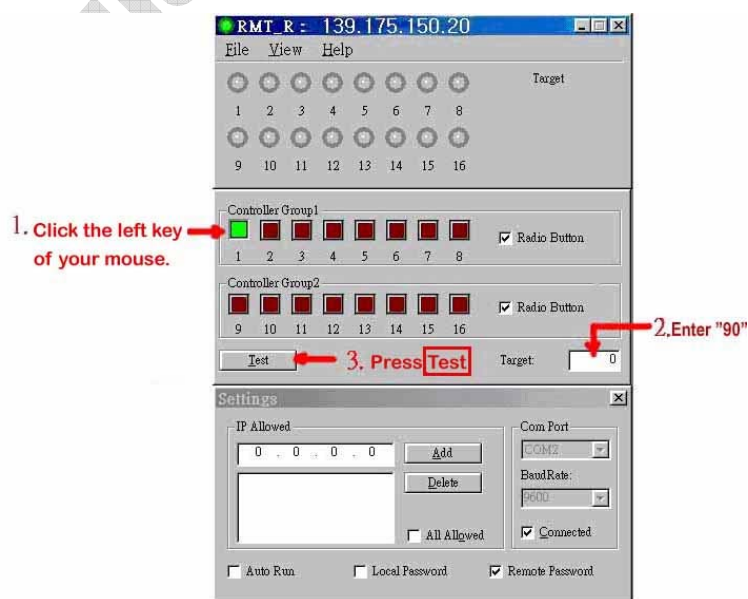

Fig. 4
c) Execute following three steps as Fig. 4 shows:
The above three steps will be shown as Fig. 4.